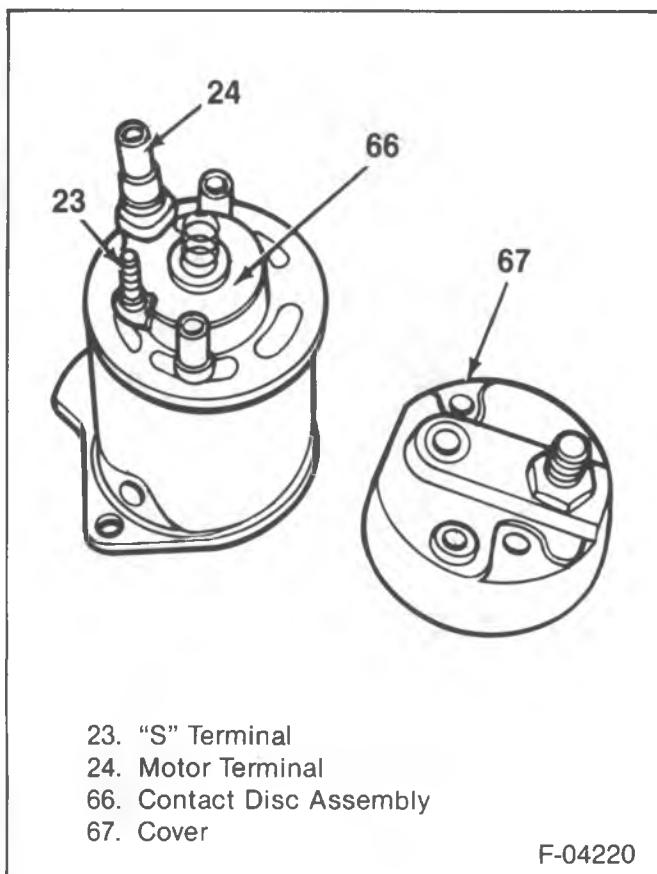

Figure 12—Solenoid Disassembled
**Remove or Disconnect (Figure 12)**
1. Nuts from the "S" terminal (23) and the motor terminal (24).
2. Screws attaching the end cover (67).
Assemble (Figure 12)